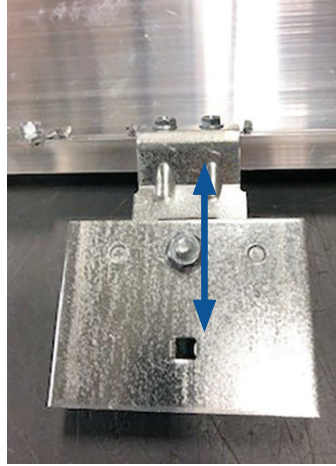

Figure 3A: weight stack on counterbalance bracket in factory position
- Locate the $\frac{7}{16}$ in. nut on the weight stack and loosen until the weight stack may slide freely on the counterbalance bracket (see Figure 3A)
- Locate the $\frac{7}{16}$ in. nut on the weight stack and loosen until the weight stack may slide freely on the counterbalance bracket (see Figure 3A).